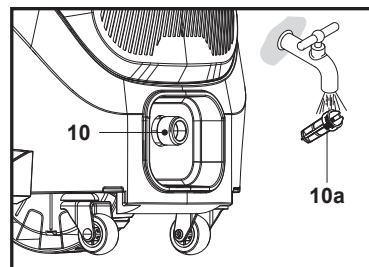

Fig. 24
2. Remove the filter screen (10a) from water inlet connector (10) and rinse under tap water to remove any foreign objects (Fig. 24). Reinstall the filter screen (10a) afterwards.